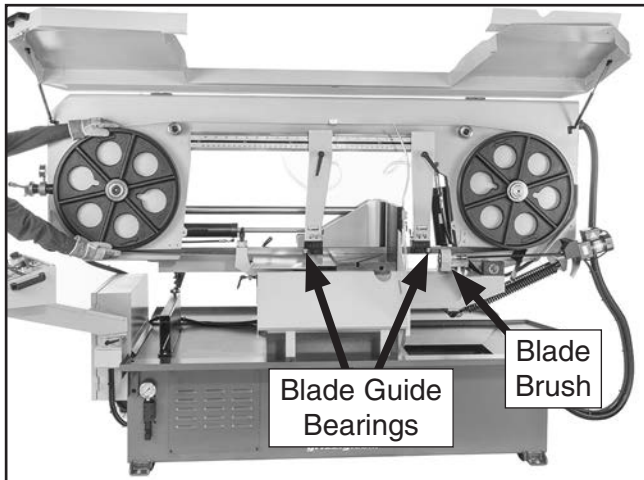

Figure 31. Installing new blade.
9. With help of an assistant, insert new blade through both blade guides and bearings (see **Figure 31**), then position it around wheels.